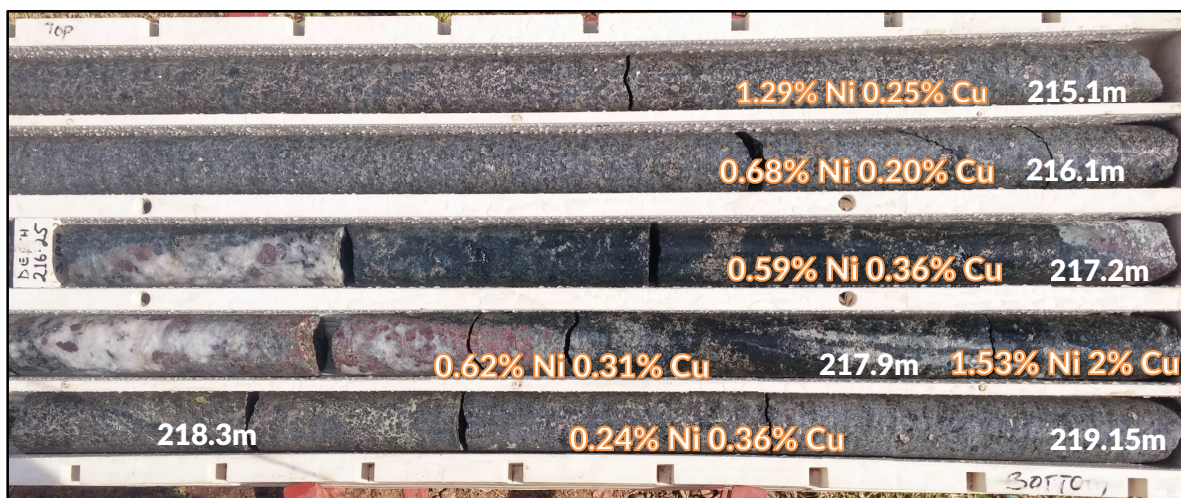

Figure 1 – Mineralised NQ core from AKD017 part of 5.2m interval from 213.1m to 218.3m showing matrix textured sulphides averaging 1% Ni and 0.41% Cu
**84.5m @ 0.37% Ni 0.16% Cu** from 138m to 222.5m down-hole including **5.2m @ 1% Ni and 0.41% Cu** from 213.1m to 218.3m down-hole (refer Figure 1) and **0.8m @ 0.99% Ni and 1.59% Cu** from 221.1m down-hole in the basal matrix to semi-massive zone.
This thicker and better mineralised basal zone can now be demonstrated to plunge shallowly to the north west and is continuous where drilled from AKD004 in the south for well over 300m to the north, where it is thickening and demonstrates the presence of higher copper values in association with the strong matrix textured zones, as seen in hole AKD017 from 213.1m to 221.9m down-hole (refer to Figures 1 and 2).